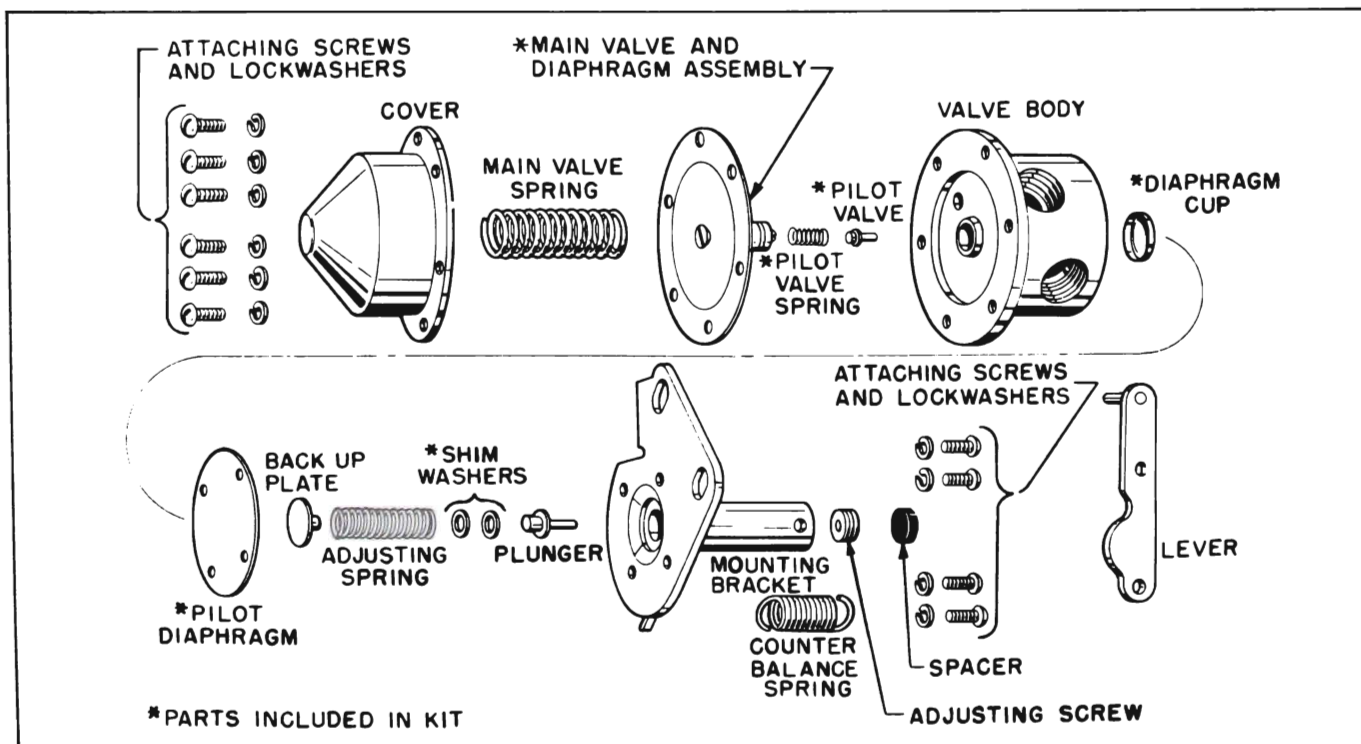

Figure 11-24—Exploded View of Hot Gas By-Pass Valve
- Remove valve control lever, counter balance spring and spacer. See Figure 11-24.
- With engine speed set at 1600 RPM, adjust suction pressure as specified in functional test chart, Figure 11-33. In the case of a rebuilt valve, it may be necessary to add or remove plunger shims to obtain proper adjustment of valve. See Figure 11-24.
If test has indicated the hot gas by-pass valve is defective, the valve may be overhauled using the repair kit available through any Buick parts warehouse under Group 9.212. Use Figure 11-24 as a guide during disassembly and assembly of valve.